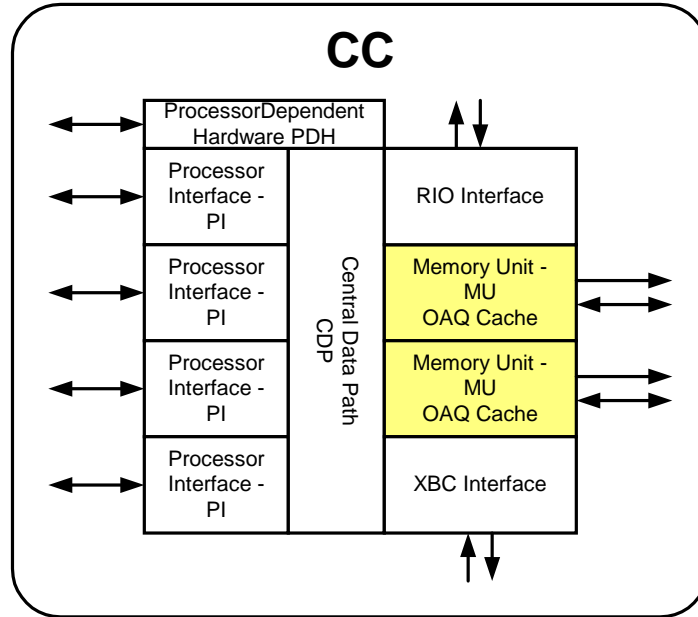

Figure 4 – CC CPU and Memory Controller ASIC
For a full block diagram of the CC, see Figure 4. The core of the ASIC is a crossbar interface called the Central Data Path, (CDP). Connecting to the CDP are four Processor Interfaces, (PI), the two Memory Units, (MU), Processor Dependent Hardware, I/O controller, and XBC crossbar interface.